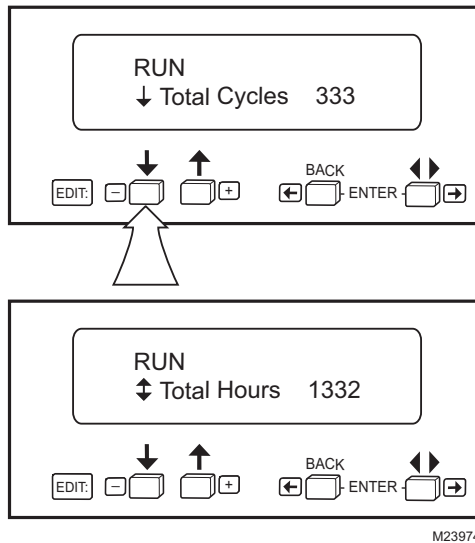

Fig. 41. The ↕ (down-up) push-button function.
1. Down-up arrow push-buttons. See Fig. 41. The down-up arrow push-buttons are used to scroll through the selectable messages. The double-headed arrow, (↕), which is located in the lower left position of the second line of the display, represents the down-up push-buttons. The down-up push-buttons can be pressed to display the selectable messages one at a time or held down to scroll through the selectable messages at the rate of two per second. When the last item of the selectable message is viewed, the display wraps around and displays the first selectable message again.